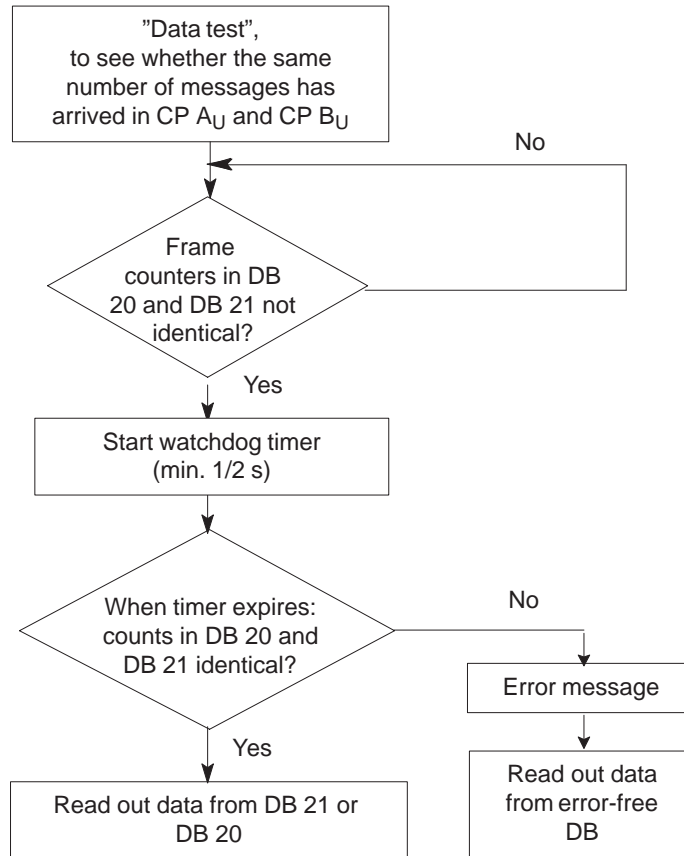

Figure 10-5 Structogram of the "Data Test" FB
**The "Data Test" FB** In the "Data test" FB, the frame counter in the first word of DBs 20 and 21 is used to ascertain whether the two U CPs have received any data at all. If a U CP is not receiving data, the "Data test" FB recognizes this fact and reports it. Figure 10-5 shows a structogram of the "Data test" FB.